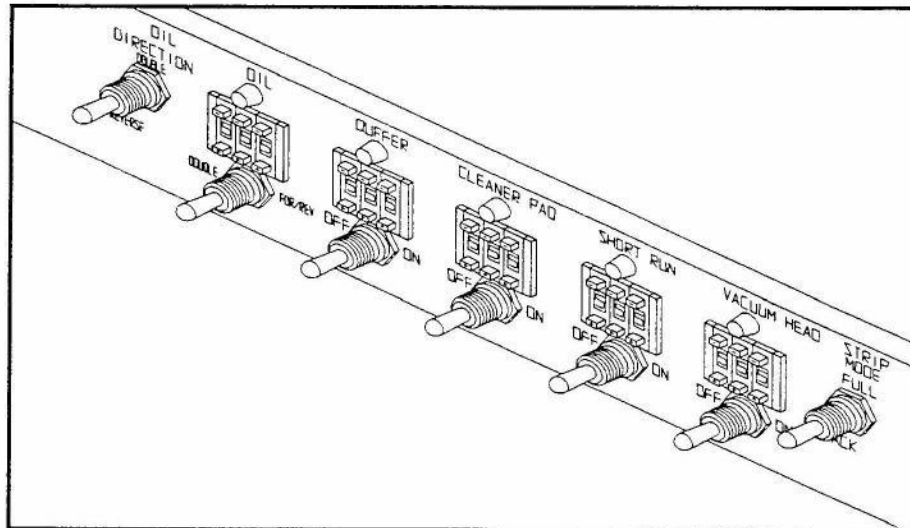

Figure 7
10. For GEMINI machines, turn the cleaning pad switch on, vacuum head switch on and vacuum motor switch on. See Figure 7.